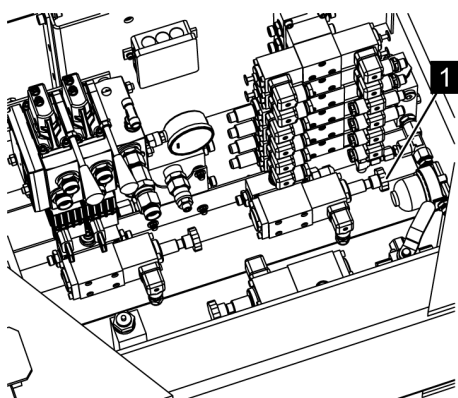

Fig. 106: Valves
4. ➔ For outrigger operation, lock the shuttle valve (Fig. 106/1).